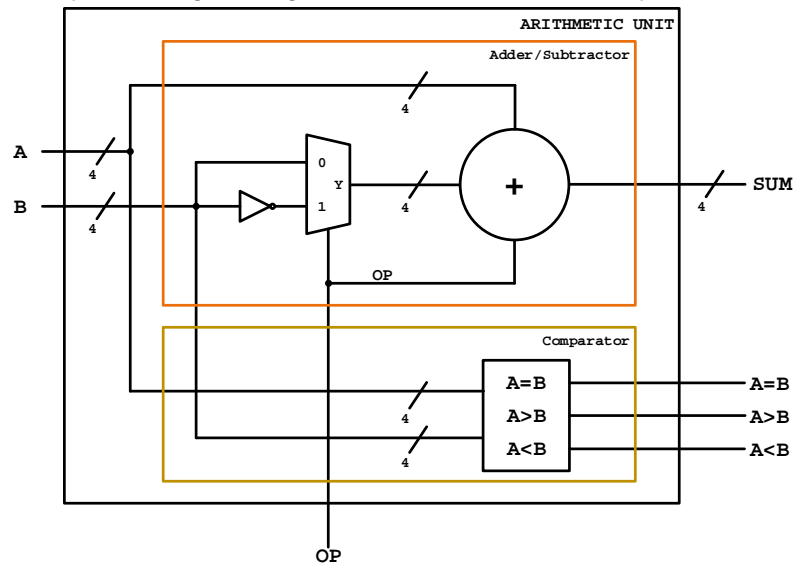

Figure 5: Arithmetic Unit
1. After a 4-bit Adder/Subtractor and a 4-bit Comparator module have been implemented and tested in 2.2.3 and 2.2.4, combine these two modules as shown in Figure 5 in one structural Verilog HDL design named as **ARITHMETIC_UNIT**.